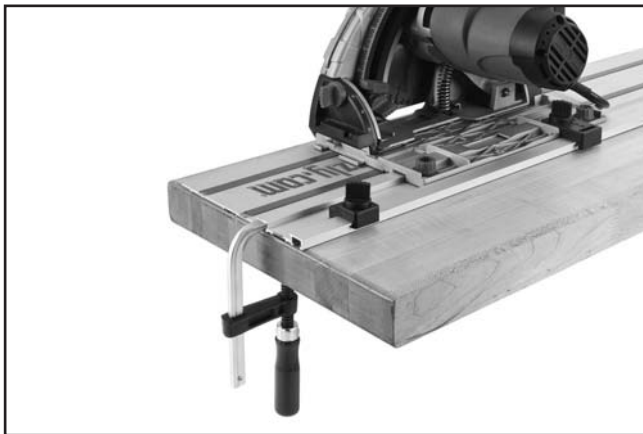

Figure 21. Rail track clamped to workpiece.
2. When satisfied with the position of the rail track, use F-clamps to secure it to the workpiece, as shown in **Figure 21**.